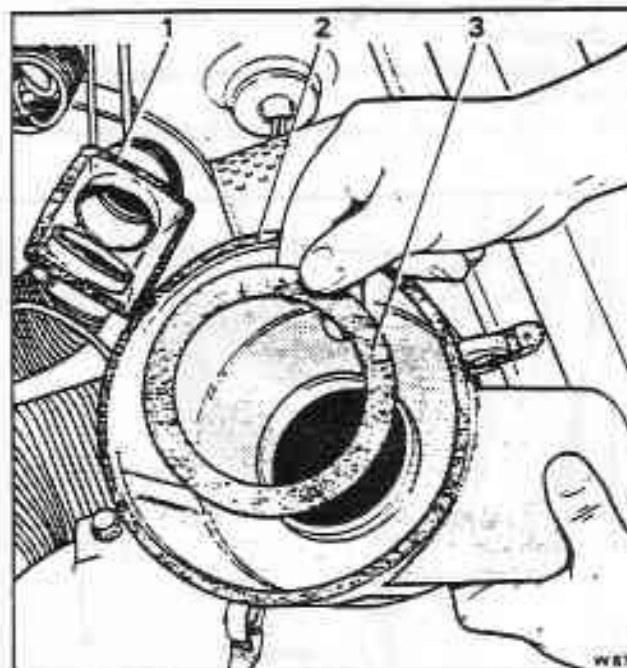

Fig. K6-4 Air cleaner/silencer seals
2. Inspect the three rubber seals (see fig. K6-4) ensuring that they are in good condition.